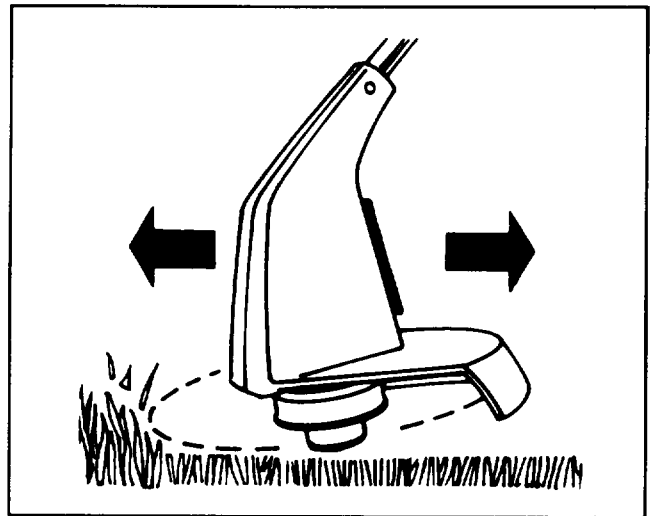

Figure 14
1. Hold the power pack case in a position which slightly tips cutting head down at an angle to the grass to be trimmed as shown in Figure 14.
side-to-side motion (Figs. 14 & 15). Maintain top speed for best cutting.